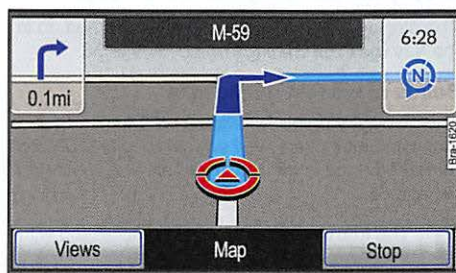

Fig. 63 Map view during active route guidance with overlaid functional areas.
After starting route guidance, the device automatically switches to map view $\Rightarrow$ fig. 63.
The symbol shows the vehicle location and driving direction $\Rightarrow$ fig. 63. If the vehicle location indicator gets stuck and the map view appears to "freeze", the current vehicle location cannot be determined, e.g., in parking garages.
- Briefly press to the right or left in the bottom line of the screen to display the function buttons again $\Rightarrow$ fig. 63.
- Press the **[Extras]** function button $\Rightarrow$ fig. 63.